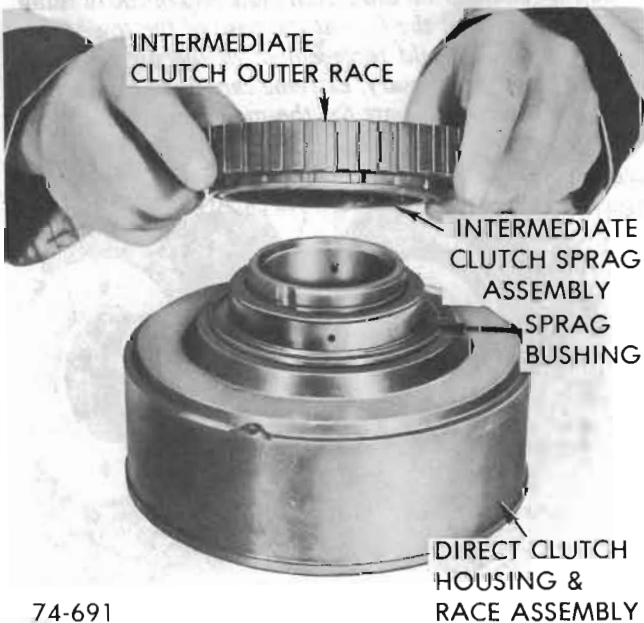

Figure 76-212
13. With ridge on inner cage facing down start sprag and outer race over inner race with clockwise turning motion. See Figure 76-212.